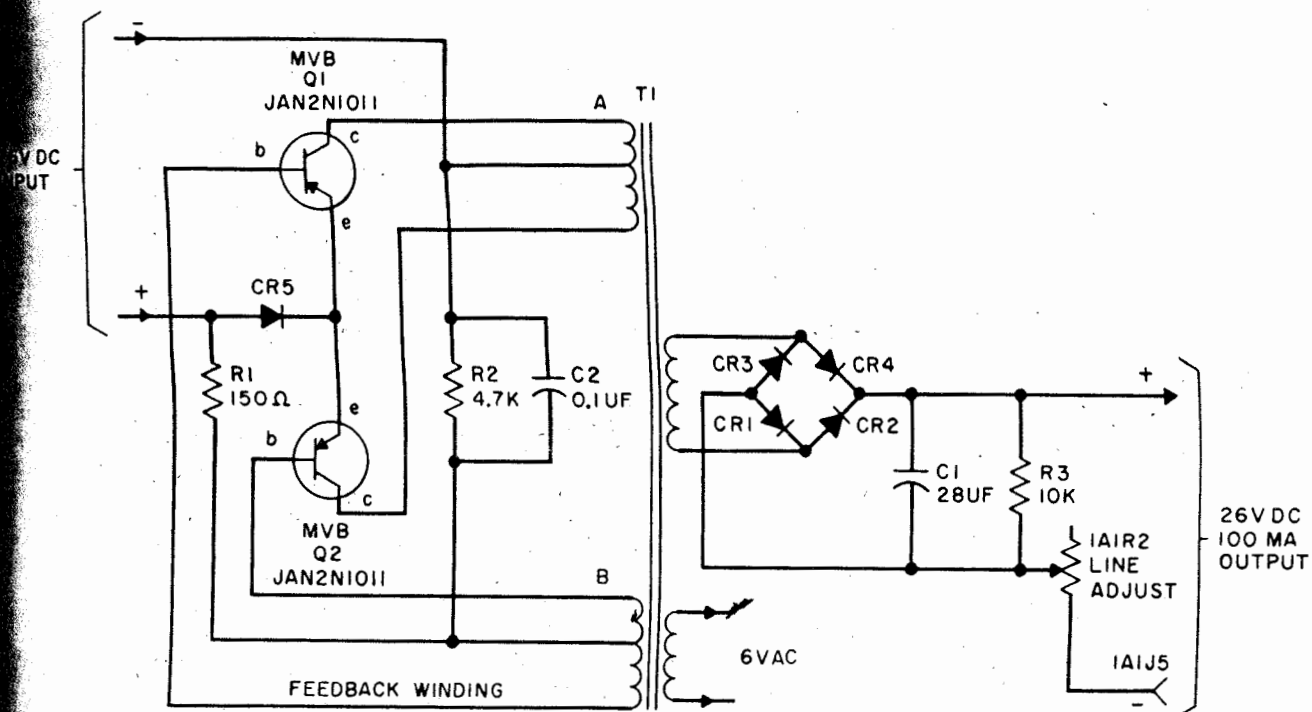

Figure 4-6. D-c Signal Line Power Supply 1A7, Simplified Schematic Diagram
c. D-C SIGNAL LINE POWER SUPPLY 1A7. — D-c signal line power supply 1A7 (figure 4-6) converts 26 vdc, negative ground to 26 vdc, floating ground at 100 milliamperes load current. The